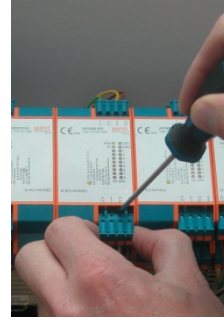

Figure 3
- Use a screwdriver to loosen the plug-in spring clamps (fig. 3).